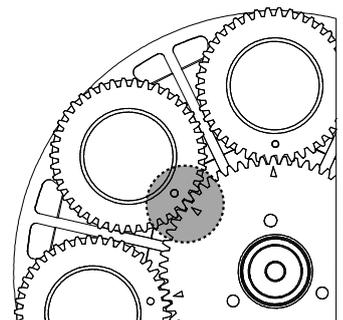

Figure 22: Alignment marks
4. The gobo is held in place in the gobo holder by a conical retaining spring. Unhook the end of the spring and pull the gobo out (figure 22).
4. Insert the gobo holder into the gobo wheel and align the index marks (figure 22). All index marks around the wheel have to be aligned to the same position.